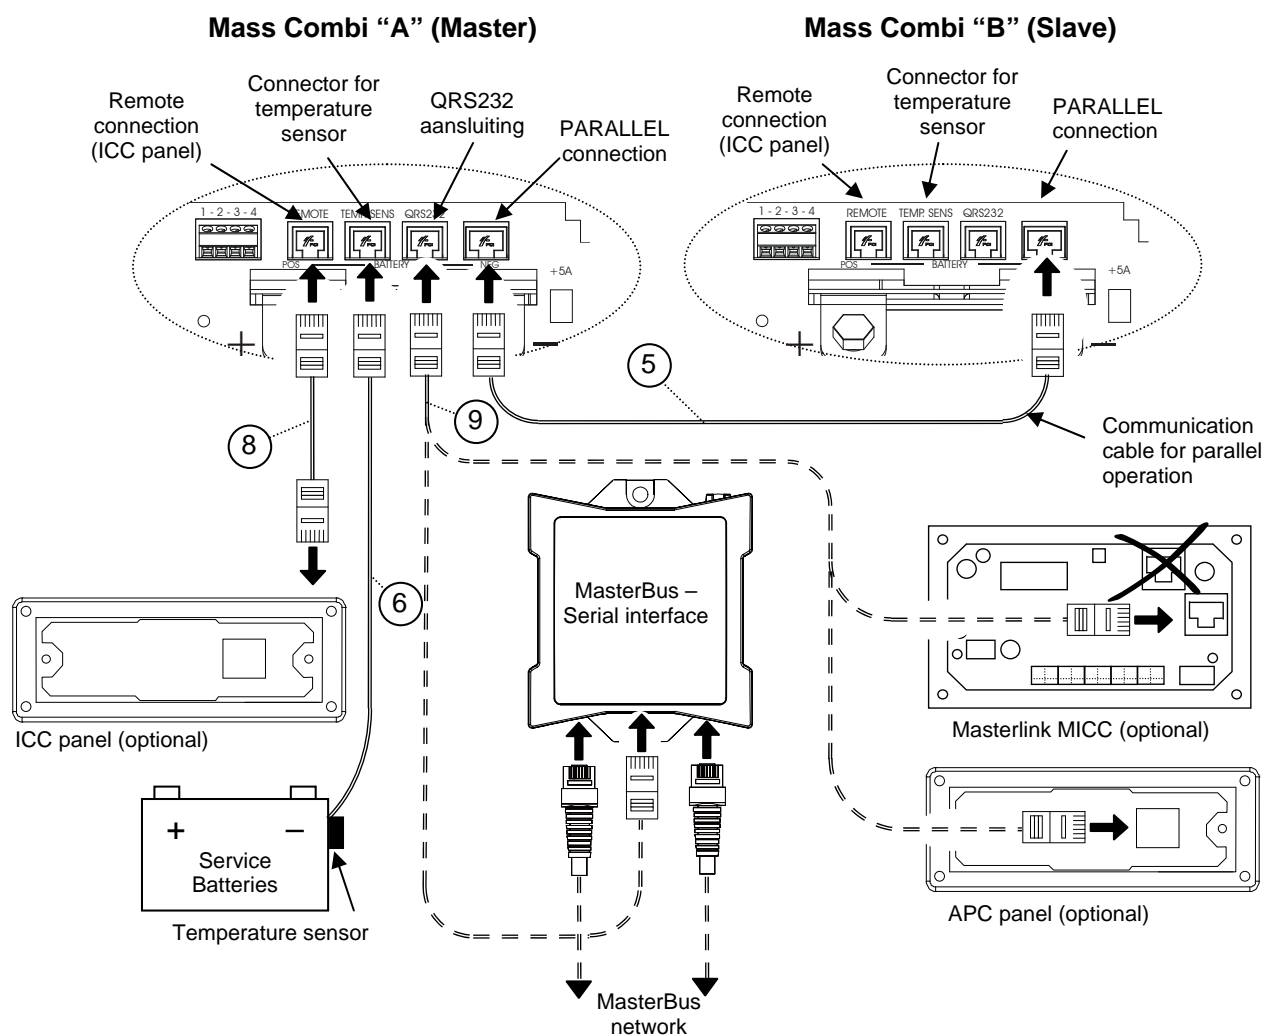

Figure 29:
- See figure 29, reference ⑤. Run the modular 8-pole communication cable between Mass Combi "A" and Mass Combi "B". Connect this cable to the PARALLEL connectors.
- See reference ⑥. Attach the temperature sensor to the battery and run the cable into Mass Combi "A" and connect the RJ12 connector to the "TEMP.SENS"-connector (Data Bus Connections)
- See figure 29, reference ⑧. If you want to install the ICC remote control panel, run the communication cable between Mass Combi A and the panel. Connect the RJ12 connector to the "REMOTE"-input (Data Bus Connections) of Mass Combi A.